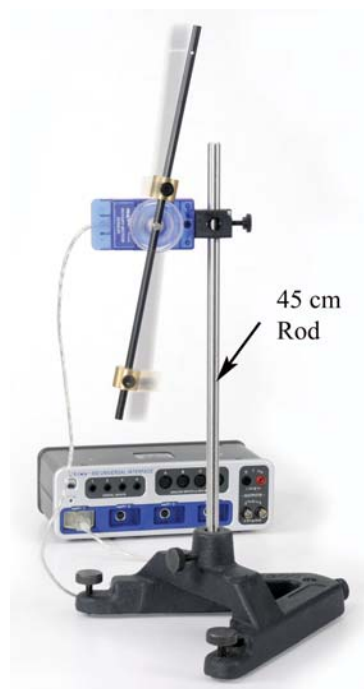

Figure 1: Minimum Period of a Pendulum
The period of the physical pendulum shown in Figure 1 is measured with the lower brass mass in various positions. If you start with the mass at the bottom, and then move it up to the position shown, you find that the period has decreased, due to the fact that you have decreased the pendulum's rotational inertia. However, if you move the mass up close to the pulley, the period will be very large, due to the fact the pendulum is almost balanced by the upper fixed mass. Somewhere in between these two extremes, the period goes through a minimum value.
1. Use the base and 45 cm rod to support the Rotary Motion Sensor as shown in Figure 1. Plug in the sensor.